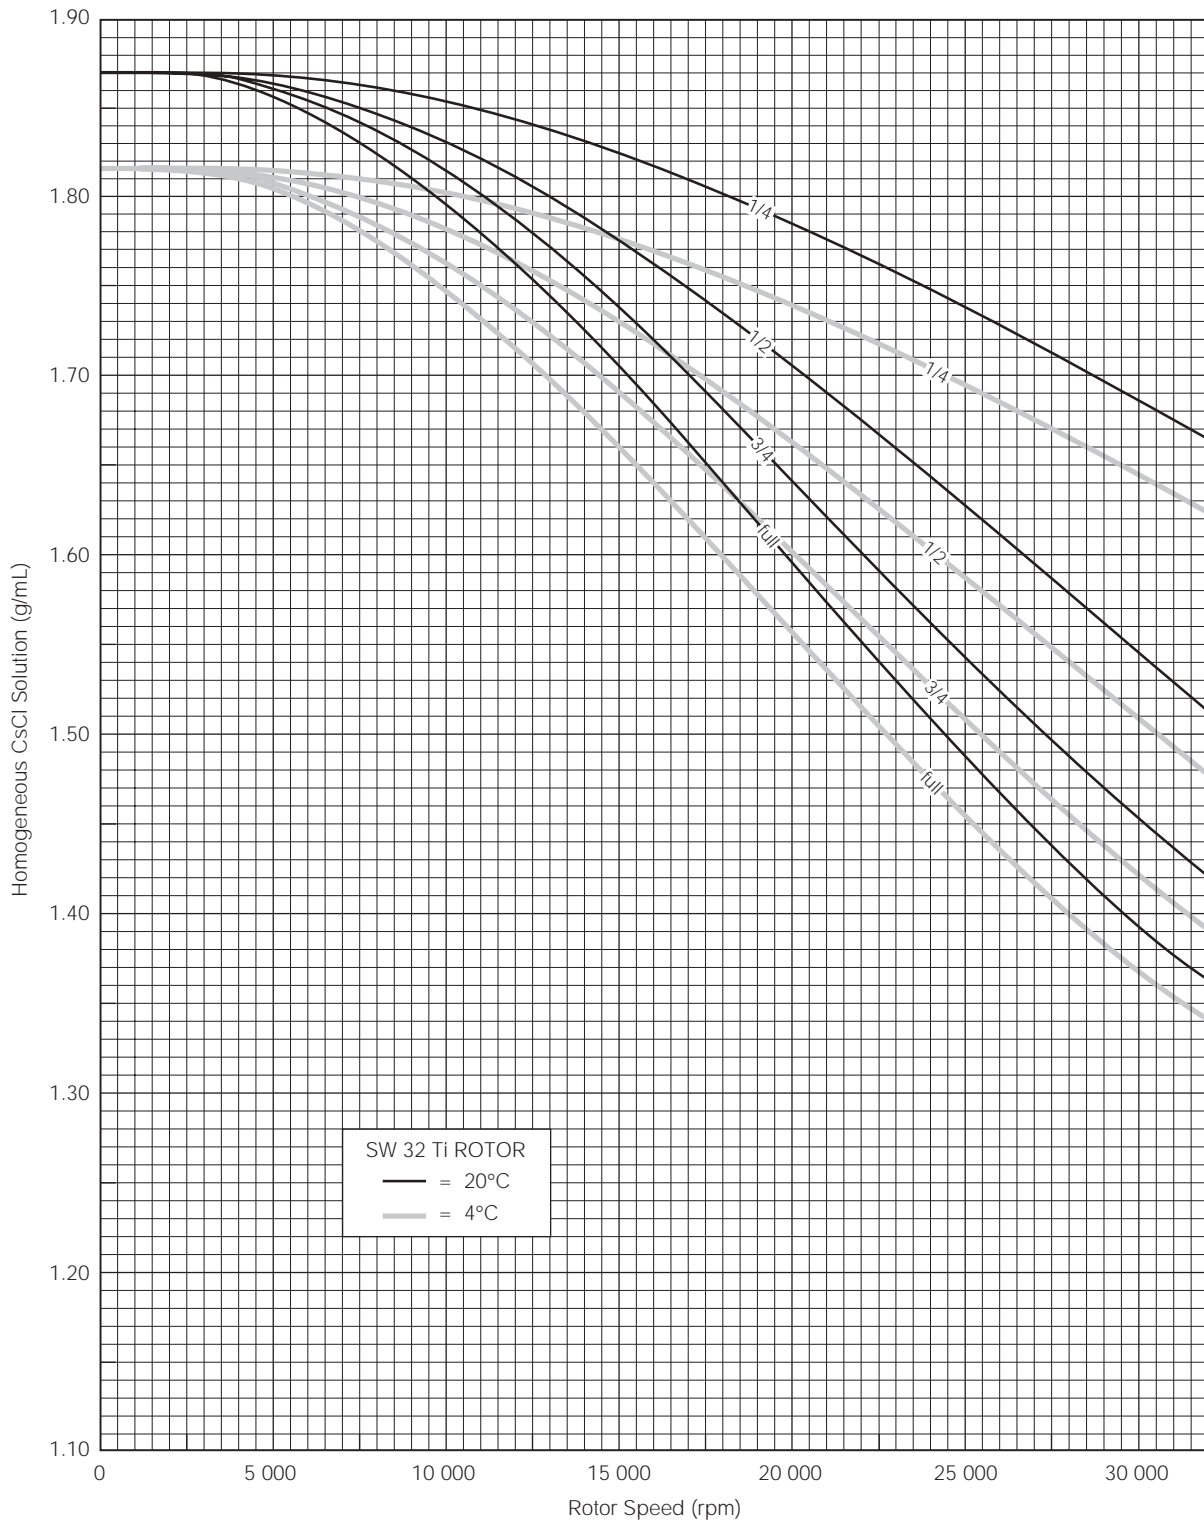
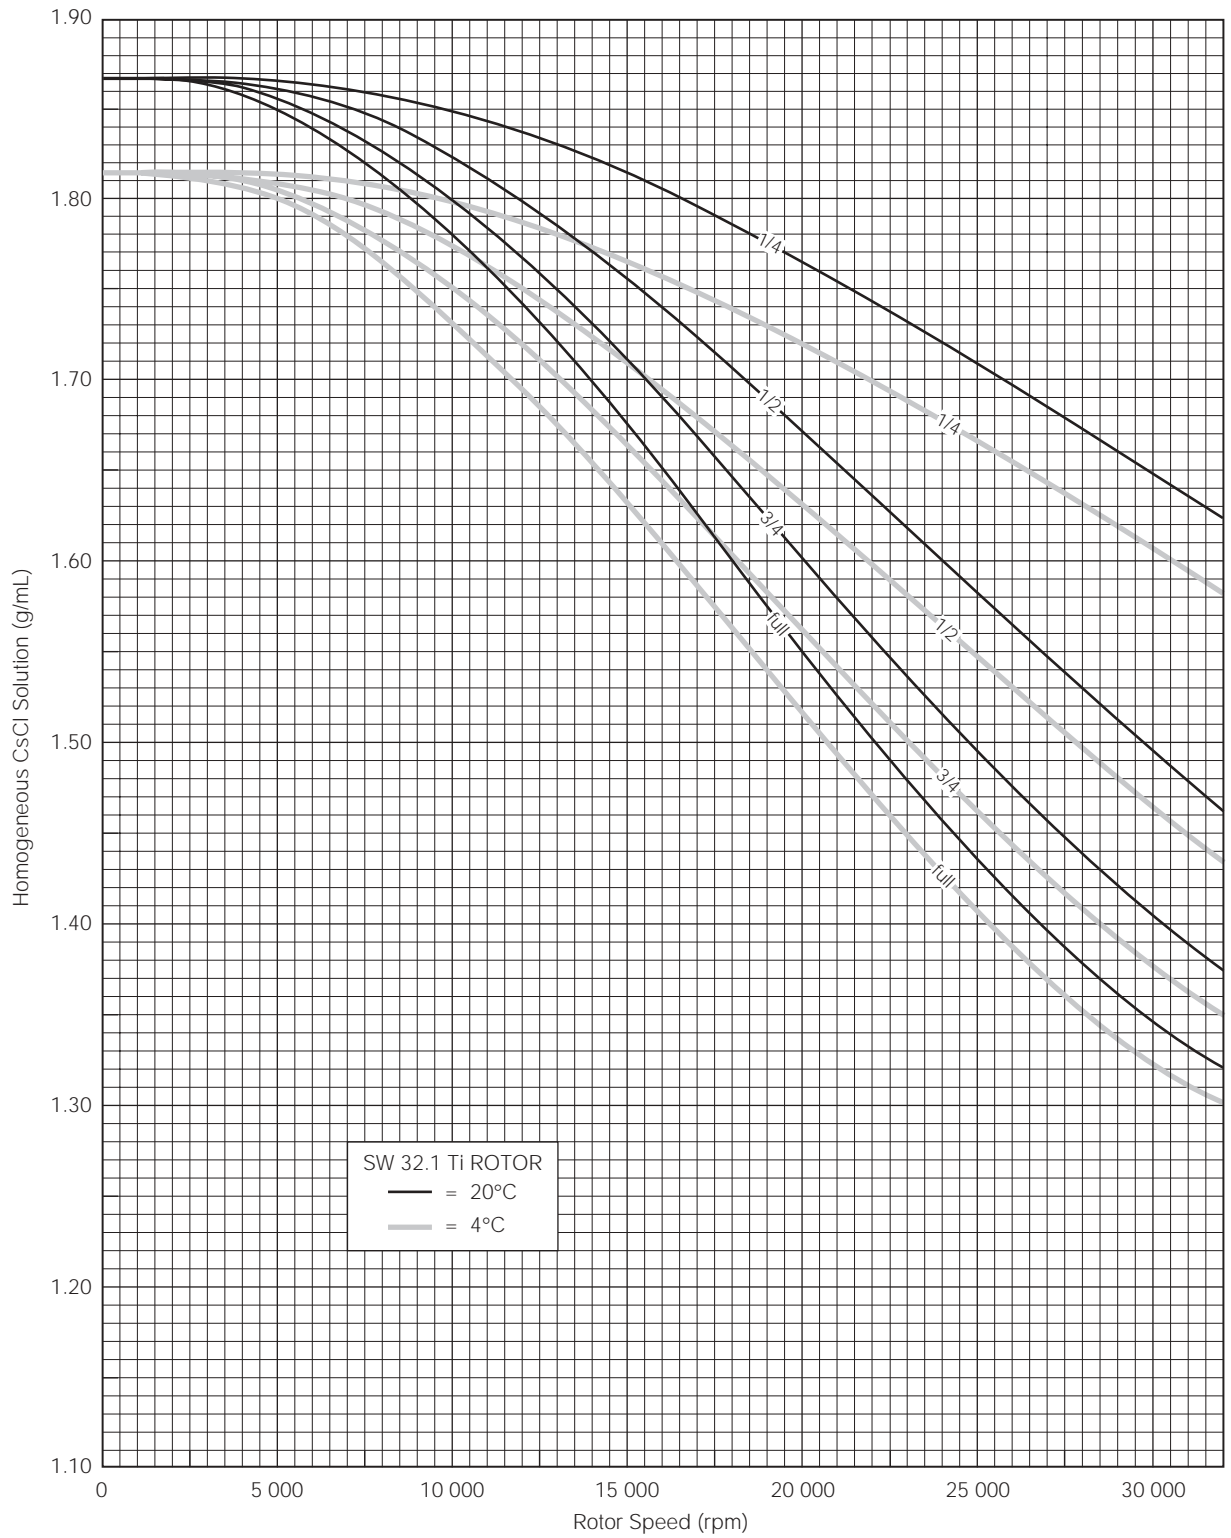

Figure 2. Precipitation Curves for the SW 32 Ti Rotor.
Figure 4. Precipitation Curves for the SW 32.1 Ti Rotor.
2. *Further speed limits must be imposed* when CsCl or other self-forming-gradient salts are centrifuged, as equation (6) does not predict concentration limits/speeds that are required to prevent precipitation of salt crystals. Solid CsCl has a density of 4 g/mL, and if precipitated during centrifugation may cause rotor failure. Figures 2 through 5, together with the description and examples below, show how to reduce run speeds when using CsCl gradients.
Rotor speed is used to control the slope of a CsCl density gradient, and must be limited to prevent CsCl precipitation during centrifugation. Speed and density combinations that intersect on or below the curves in Figure 2 (for the SW 32 Ti rotor) and in Figure 4 (for the SW 32.1 Ti rotor) ensure that CsCl will not precipitate during centrifugation in these rotors. Curves are provided at two temperatures: 20°C (black curves) and 4°C (gray curves). Curves in Figures 2 through 5 are provided up to the maximum speed of the rotor.
The curves in Figures 2 through 5 are for solutions of CsCl salt dissolved in distilled water only. If other salts are present in significant concentrations, the overall CsCl concentration may need to be reduced.
Figures 2 through 5 show that several fill volumes are possible in a tube. If a thinwall tube is partially filled with gradient solution, float mineral oil (or some other low-density, immiscible liquid) on top of the tube contents to fill the tube to its maximum volume. (Do not use an oil overlay in Ultra-Clear tubes.) Note that for a given CsCl density, as the fill level decreases the maximum allowable speed increases. Partial filling may be desirable when there is little sample or when you wish to shorten the run time.
Figure 3. CsCl Gradients at Equilibrium for the SW 32 Ti Rotor. Centrifugation of homogeneous CsCl solutions at maximum allowable speeds (from Figure 2) results in gradients presented here.
Figure 5. CsCl Gradients at Equilibrium for the SW 32.1 Ti Rotor. Centrifugation of homogeneous CsCl solutions at maximum allowable speeds (from Figure 4) results in gradients presented here.
For example, in the SW 32 Ti rotor, a *quarter-filled* tube of 1.69-g/mL homogeneous CsCl solution at 4°C may be centrifuged at 25 000 rpm (see Figure 2). The segment of the 25 000 rpm curve (Figure 3) from the quarter-filled line to r_{\max} (the tube bottom) represents this gradient. The same solution in a *half-filled* tube may be centrifuged no faster than 17 000 rpm, and 15 000 rpm in a *three-quarter-filled* tube. A tube *full* of the 1.69-g/mL CsCl solution may be centrifuged no faster than 13 500 rpm. Curves not shown in the figures may be interpolated.
1. In Figure 2, find the curve that corresponds to the required run temperature (20°C) and fill volume (three-quarters full). The maximum allowable rotor speed is determined from the point where this curve intersects the homogeneous CsCl density (28 000 rpm).
4. From Figure 2, select the maximum homogeneous CsCl density (in this case, 1.56 g/mL) that corresponds to the temperature and run speed established above. These parameters will provide the particle-banding pattern selected in Step 2.